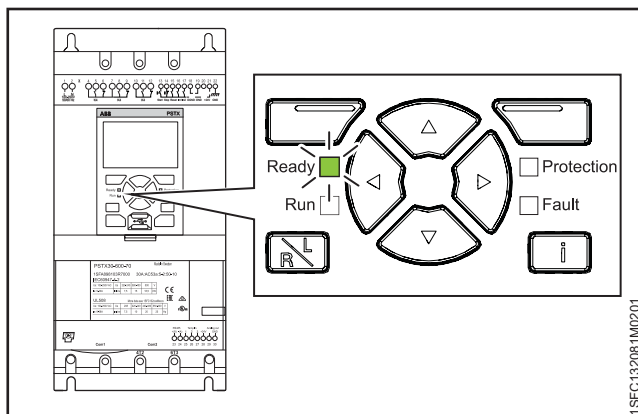

Figure 2.6
- If the max nbr of starts per hour function is enabled and set to stop manual or stop automatic, the remaining time to start counter (which can be shown in the HMI homeview) has to be zero. Otherwise the ready LED is flashing, **see Figure 2.6**.